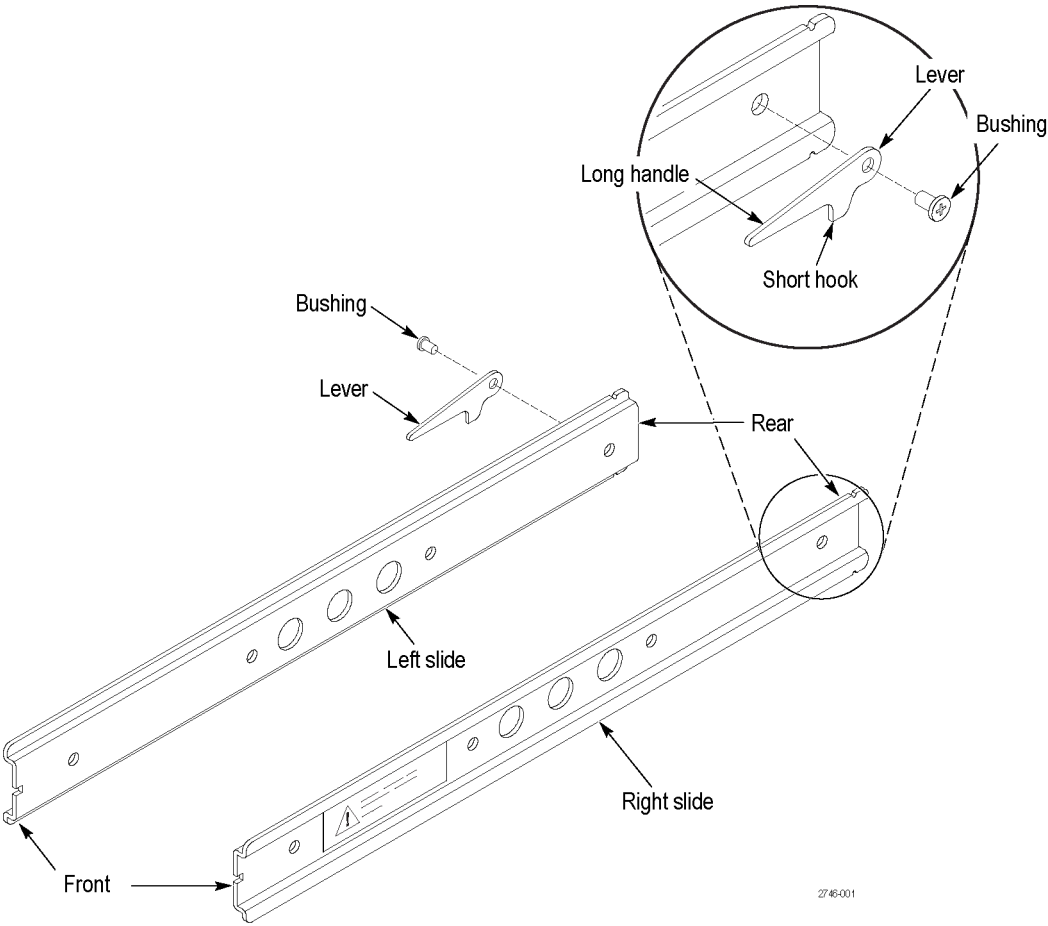
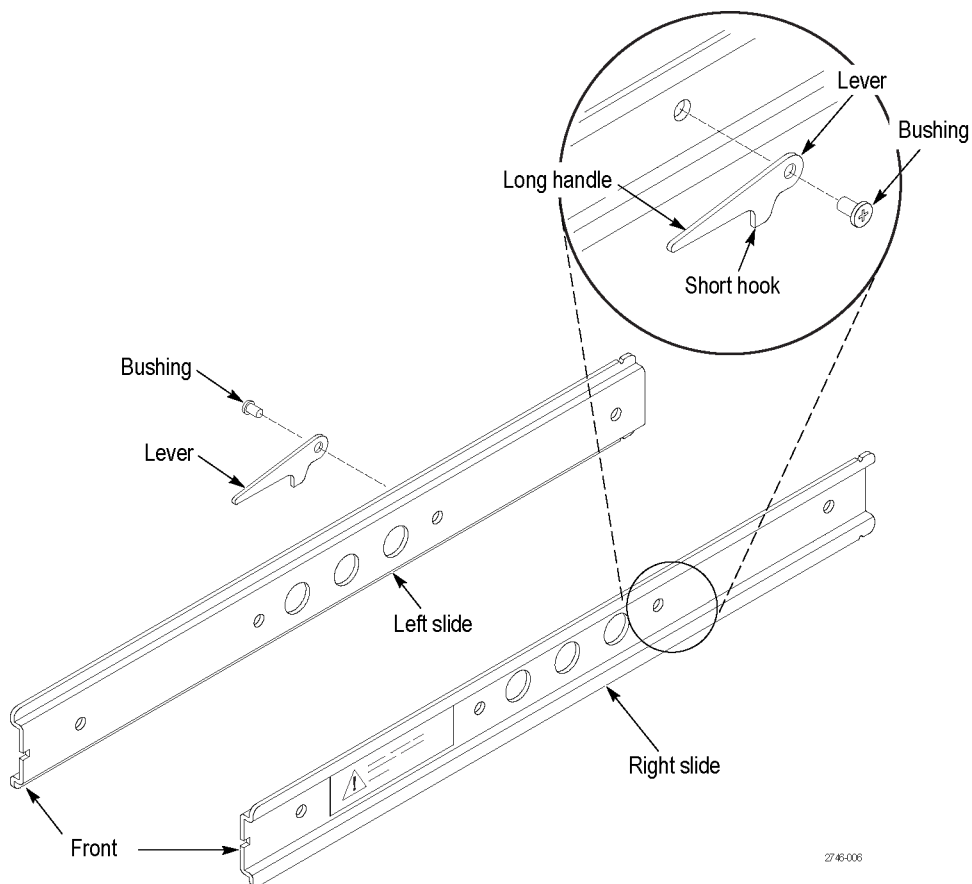

Figure 3: Attaching the slide levers (all instruments except the SPG700, SPG8000 and SPG8000A)
Figure 4: Attaching the slide levers (SPG700, SPG8000 and SPG8000A only)
1. Identify the right rear and left rear of each slide. A warning label will be on the outside side of each slide. (See Figure 3.) (See Figure 4.)
- c. Place the lever, with the long handle facing the front of the slide and the short hook facing downward, over the remaining mounting hole. (See Figure 3.) (See Figure 4.)